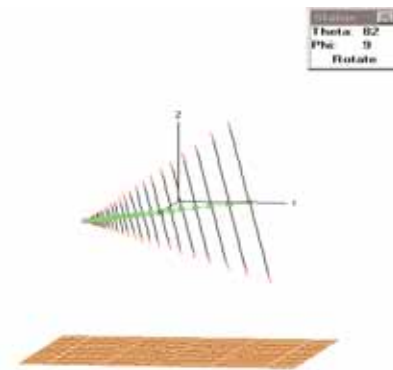

Figure 2. ETS-Lindgren 3150 LPDA antenna modeled geometry.
- The field distribution in the required area (0.6 m above the floor, 5 x 2.4 m²) for the setup in Figure 2 (pg. 2) is simulated. Note that the antenna is tilted with respect to the test area. Typical frequencies are shown in Figures 3-14 (pgs. 2-8). Field distribution data at additional frequencies are available upon request.